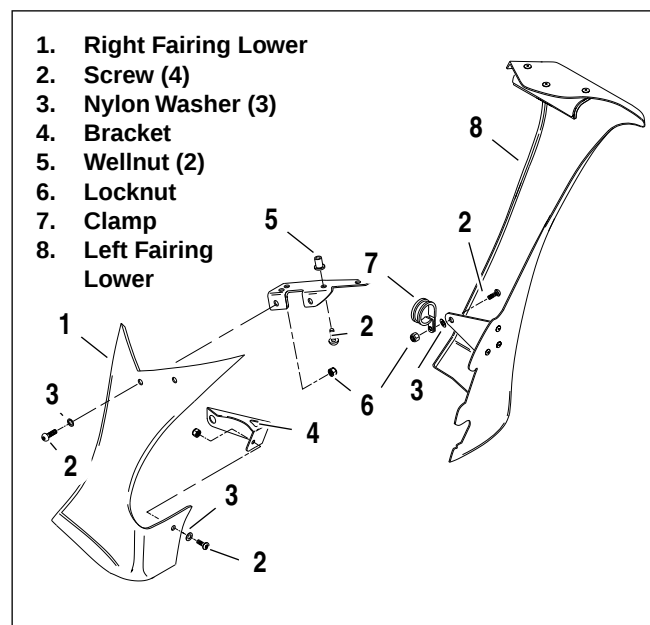

Figure 2-122. Fairing Lower
1. See Figure 2-122. Remove bottom screw (2), nylon washer (3) and locknut (6) from bracket (4).
2. Remove two upper screws (2), nylon washers (3) and locknuts from fairing. Remove fairing.
2. See Figure 2-122. Remove screw (2), clamp (7), nylon washer (3) and locknut (6) from left fairing lower (8).
3. Disengage clamp (7) from metal bracket on fairing lower.
1. See Figure 2-122. Attach fairing lower (1) to bracket (4) with screw (2), nylon washer (3) and locknut (6).
2. Install two screws (2), nylon washers (3) and locknuts (6) to air cleaner cover bracket.